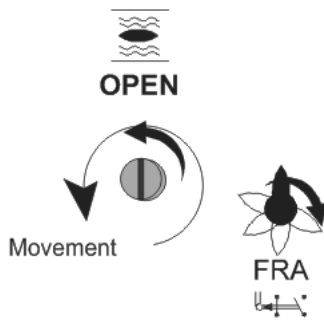
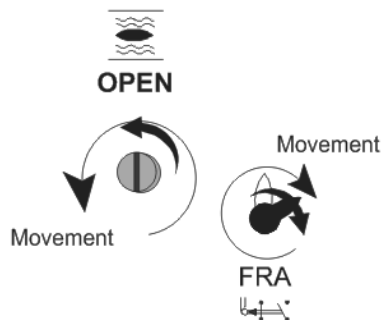

Figure 10.3-1
Figure 10.3-2
- Turn **A** spindle Counter-clockwise (Figure 10.3-1) until **B** spindle turns clockwise (At this moment FRA microswitch triggers). Just before FRA microswitch was tripped, **B** red arrow should be pointed to vertical: When **B** spindle (Red arrow) turns to right the FRA microswitch is tripped (Figure 10.3-2).